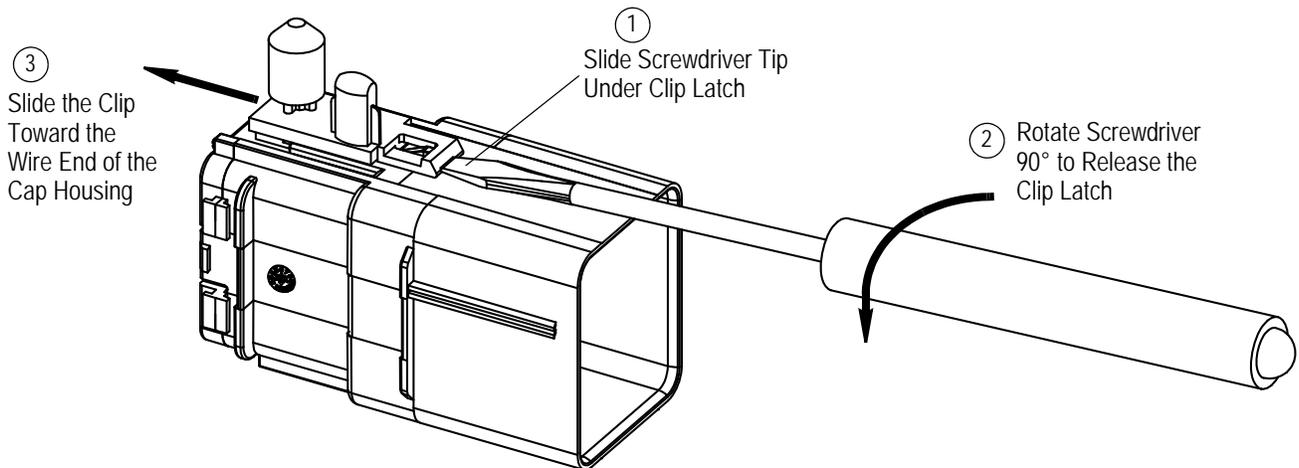

Figure 8
1. From the mating end of the cap connector, slide the tip of a flat-blade screwdriver under the latch of the body clip. See Figure 8.